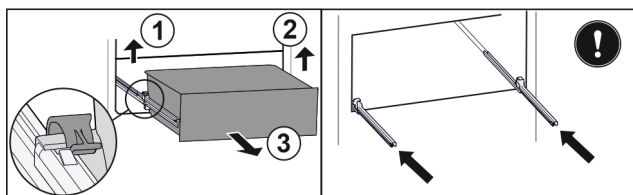

Fig. 87
- Lift left clamp and simultaneously pull drawer forwards on the left. Fig. 87 (1)
- Lift right clamp and simultaneously pull drawer forwards on the right. Fig. 87 (2)
- Remove drawer to the front. Fig. 87 (3)